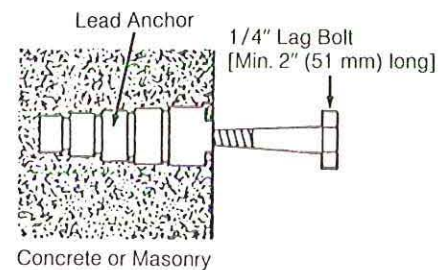
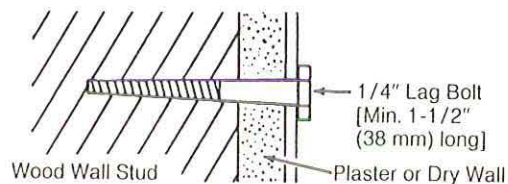

Figure 2. Mounting on Concrete, Concrete Block or Masonry Wall
Figure 3. Mounting to Wood Framing
- a. **To mount the wall section on a concrete, concrete block or masonry wall**, mark and drill tight-fitting holes for 1/4" lag bolts in lead anchors. The anchors should be placed in the block, brick or other masonry, not in mortar joints (Figure 2). To mount the unit on a wood frame, use 1/4" diameter lag bolts screwed into either the framing itself (Figure 3) or into 3/4" (19 mm) thick wood or plywood backing board securely fastened to the framing (Figure 3).